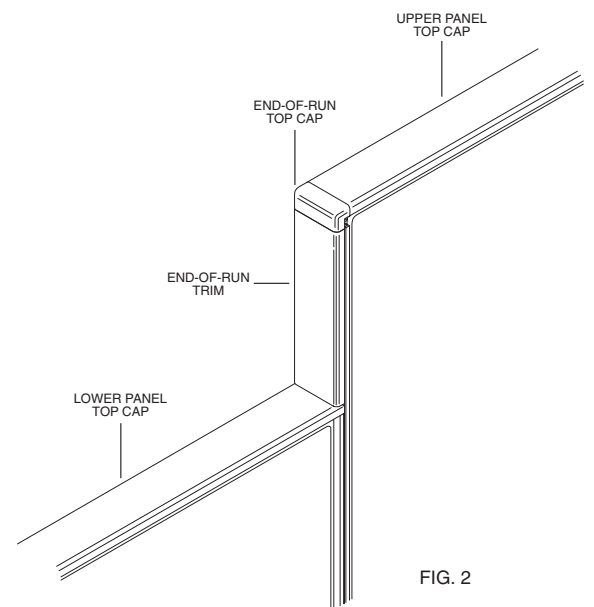

FIG. 2
3. Put the upper panel top cap and end-of-run top cap in place (Figure 2).